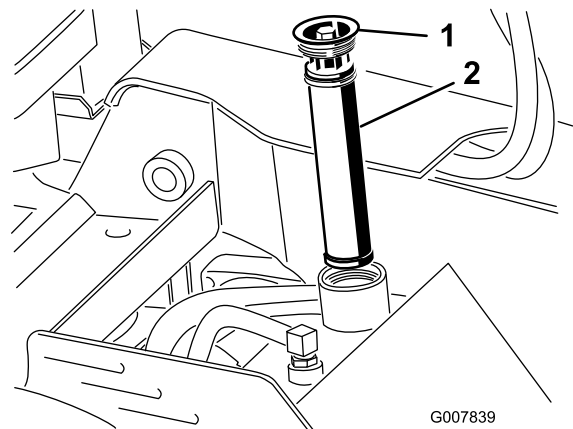

Figure 55
5. Remove and discard the old filter (Figure 55).
6. Install the replacement hydraulic filter and filler cap (Figure 55) and torque bolt on top to 110 to 140 in-lb (13 to 15.5 N-m).
6. Remove the hydraulic tank filler cap and filter (Figure 55).
12. Install the hydraulic filter and filler cap (Figure 55) and torque bolt on top to 110 to 140 in-lb (13 to 15.5 N-m).